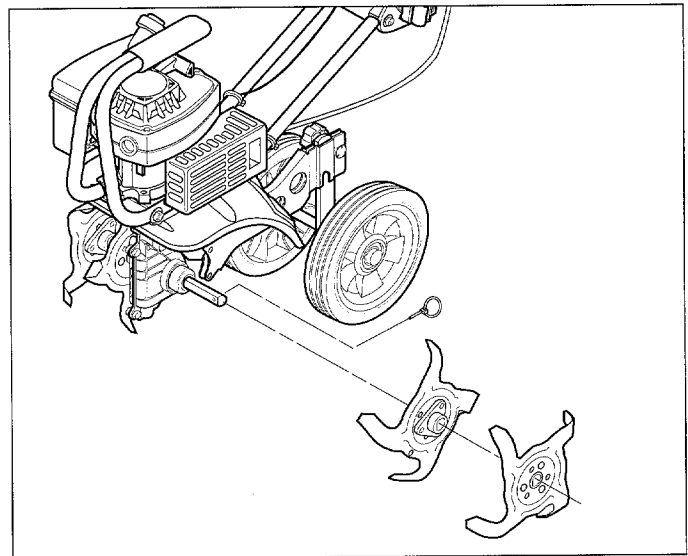

Figure 5: Remove ring lock pins and tines from both sides of the tine shaft. Keep left and right-side tines separated and marked for easier reinstallation.
- Flip open the ring on the ring lock pins and remove the ring lock pin on each tine shaft (see Figure 5 and DETAIL, Figure 6). **IMPORTANT: The ring lock pin is under spring tension -- wear gloves when removing or replacing the ring lock pin to protect your fingers.**
tions.) Refer to Figure 5 and to Figure 15 for detailed tine position information. Put the four tines aside.